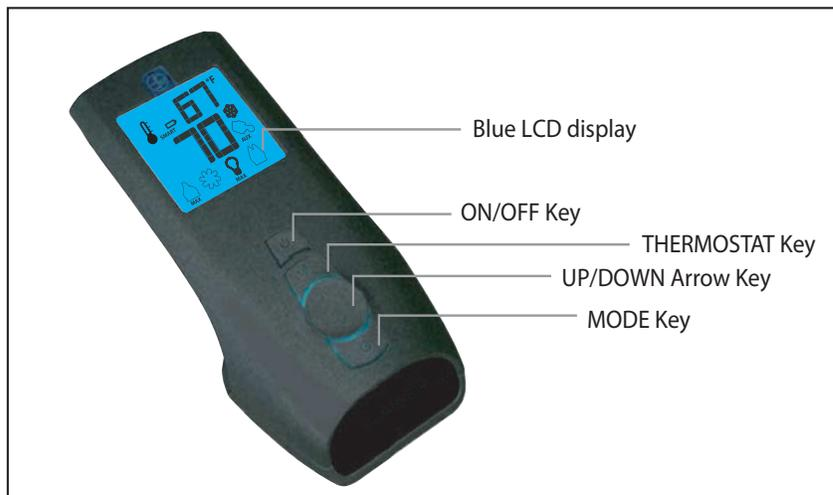
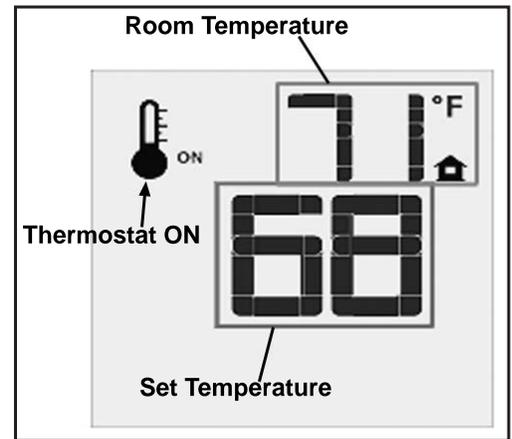
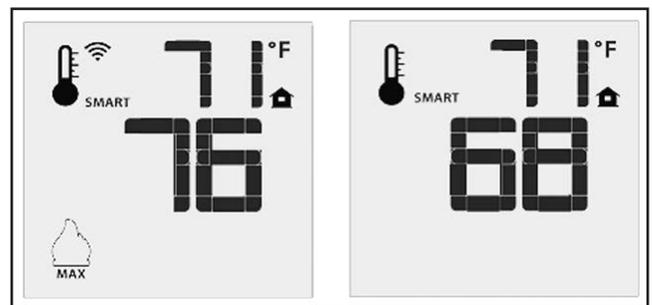
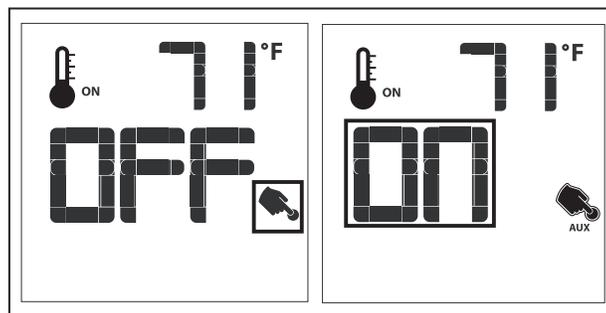

Figure 4: Proflame 2 Transmitter.
Figure 9: Remote Control Displays Set Temperature.
Figure 10: Remote Control's Smart Flame Function.
Figure 13: Aux (Top Light) Control
The Proflame 2 Transmitter is a black remote control with a blue backlit LCD display. It uses a streamline design with a simple button layout and informative LCD readout (Figure 5). The Transmitter is powered by three (3) AAA type batteries. A Mode Key is provided to Index between the features and a Thermostat Key is used to turn on/off or index through Thermostat functions (Figure 4 & Figure 5)
Press the ON/OFF Key on the Transmitter. The Transmitter LCD display will only show the room temperature and Icon (see Figure 9). A single “beep” from the IFC confirms reception of the command and both the pilot light (if the unit is not set to continuous pilot) and main burner will turn off.
The Remote Control can operate as a room thermostat. The thermostat can be set to a desired temperature to control the comfort level in a room. To activate this function, press the Thermostat Key (see Figure 4). The LCD display on the Transmitter will change to show that the room thermostat is “ON” and the set temperature is now displayed (see Figure 9). To adjust the set temperature, press the Up or Down Arrow Keys until the desired set temperature is displayed on the LCD screen of the Transmitter.
The Smart Thermostat function adjusts the flame height in accordance to the difference between the set point temperature and the actual room temperatures. As the room temperature gets closer to the set point the Smart Function will modulate the flame down. To activate this function, press the Thermostat Key (Figure 4) until the word “SMART” appears to the right of the temperature bulb graphic (Figure 10). To adjust the set temperature, press the Up or Down Arrow Keys until the desired set temperature is displayed on the LCD screen of the Transmitter.
The firebox toplight can be controlled with the Transmitter. The light is non-adjustable but can be turned on and off as desired. To control the top light press the MODE key (Figure 4) to index to the AUX control icon (Figure 13). Use the UP/DOWN arrow keys to turn the light on or off. A single beep from the IFC will confirm the command has been received. The top light is most noticeable when the flame is set to the lowest setting. It can also be left on when the flame is off (see Remote Flame Control section) to highlight the log set.